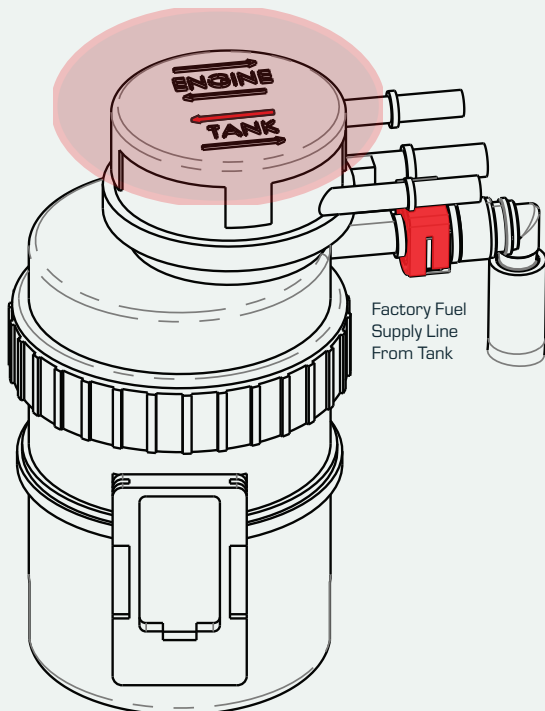

FIGURE 5
- 3 Locate the factory fuel supply line by starting at the factory fuel filter. Locate the larger lower red elbow connector (see Fig. 5), squeeze the coloured tabs to remove. Have a rag ready to capture any diesel that may spill out of the fuel line and the fuel filter.
- 5 Mount Z980K16 assembly onto metal bracket using the two (2) black M10 bolts supplied with the Z980K16.